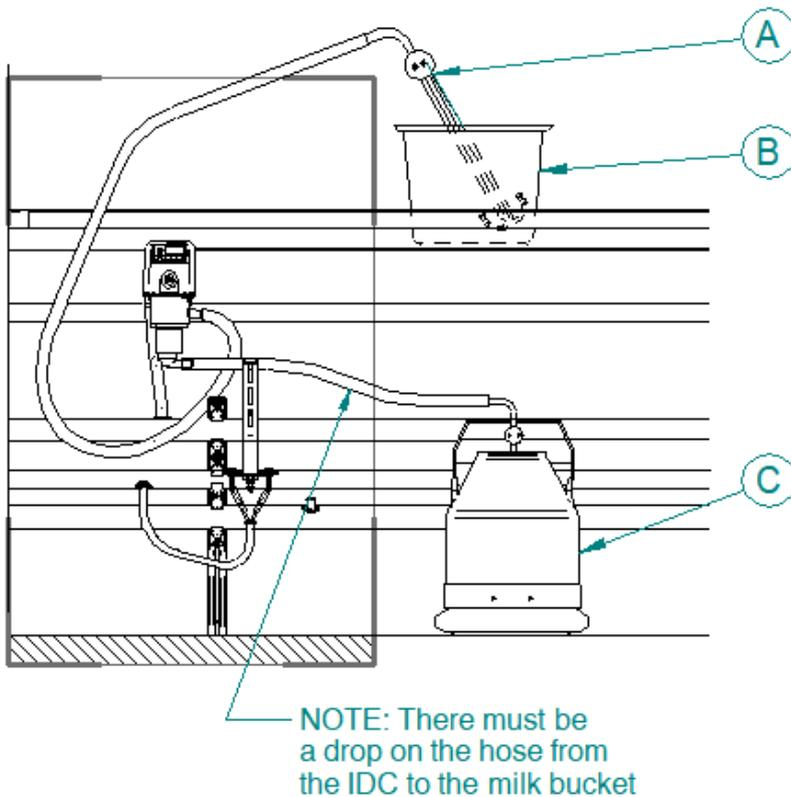

Figure 1, ICAR control
1. Flowmeter complete (900 71.000) equipped with a 3.85 mm nozzle (12189) that gives 3 l/min at 38 kPa at high flow and a 1.5mm nozzle (12188) that gives 1 l/min at 38 kPa at low flow, see position A, figure 1.
2. One or more buckets with sufficient capacity (minimum 20 liter) see position B, figure 1
3. One or more milking buckets for the collection of testing liquid, see position C, figure 1
Remove the milk hose from the milking cluster and replace it with the flow meter (See position A, figure 1). It is important that hose is guided from flow meter to IDC as usual.
Now the testing liquid is lead to a milking bucket (See position C, figure 1) instead of through the milk pipe. It is important that the hose has a drop from the IDC3's to the milk bucket for the testing liquid to primarily run through and not be pushed by air.
A bucket with testing liquid (See position B, figure 1), from which the flow meter sucks water is set where the cow would normally stand. Milking bucket must be equipped with "Adapter for bucket lid branch $\varnothing 16$ " (210 46.303).
- 1 Prepare for the test as figure 1 on page H42 63.221
- 3 Open both nozzles of the flow meter (See position A, figure 1 on page H42 63.221) and place flow meter in the bucket and press "Start".